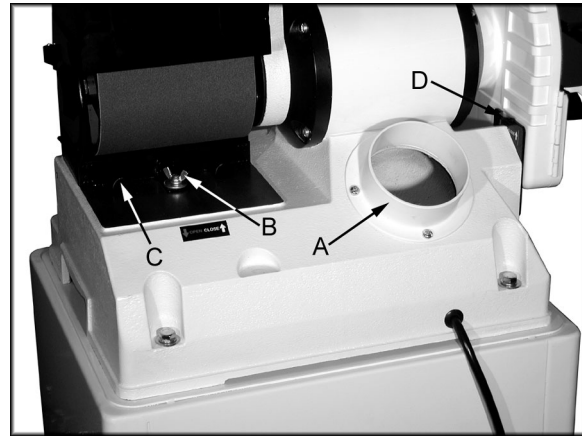

Figure 16
1. Hook the sander to a dust collector using a 4" diameter hose and clamp (A, Fig. 16). JET offers a wide variety of hoses, adapters and dust collectors.
2. Loosen the wing nut (B, Fig. 16) and pull the gate (C, Fig. 16) open to allow air suction to the sanding belt. Push the gate closed to shut off air suction. Tighten the wing nut.
3. Push the gate (D, Fig. 16) down to shut off air suction to the disc. Lift the gate to open the air suction to the disc.